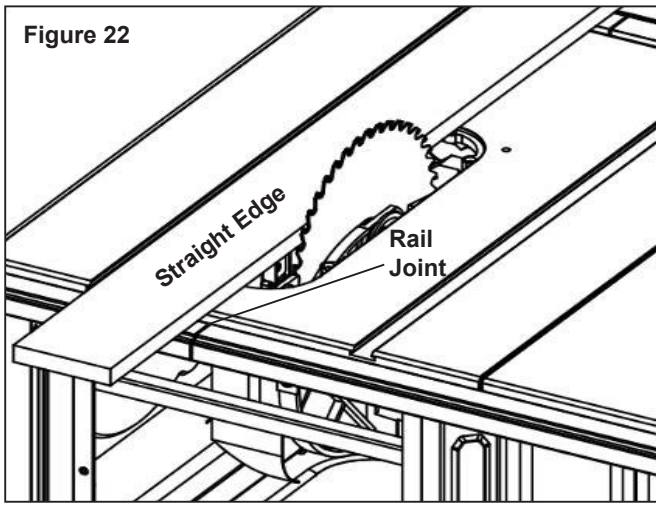

Figure 22
- Install and level the rear rails in the same manner as the front rails. Use a straight edge to align the left edge of rail joint to the blade. Figure 22, page 11.